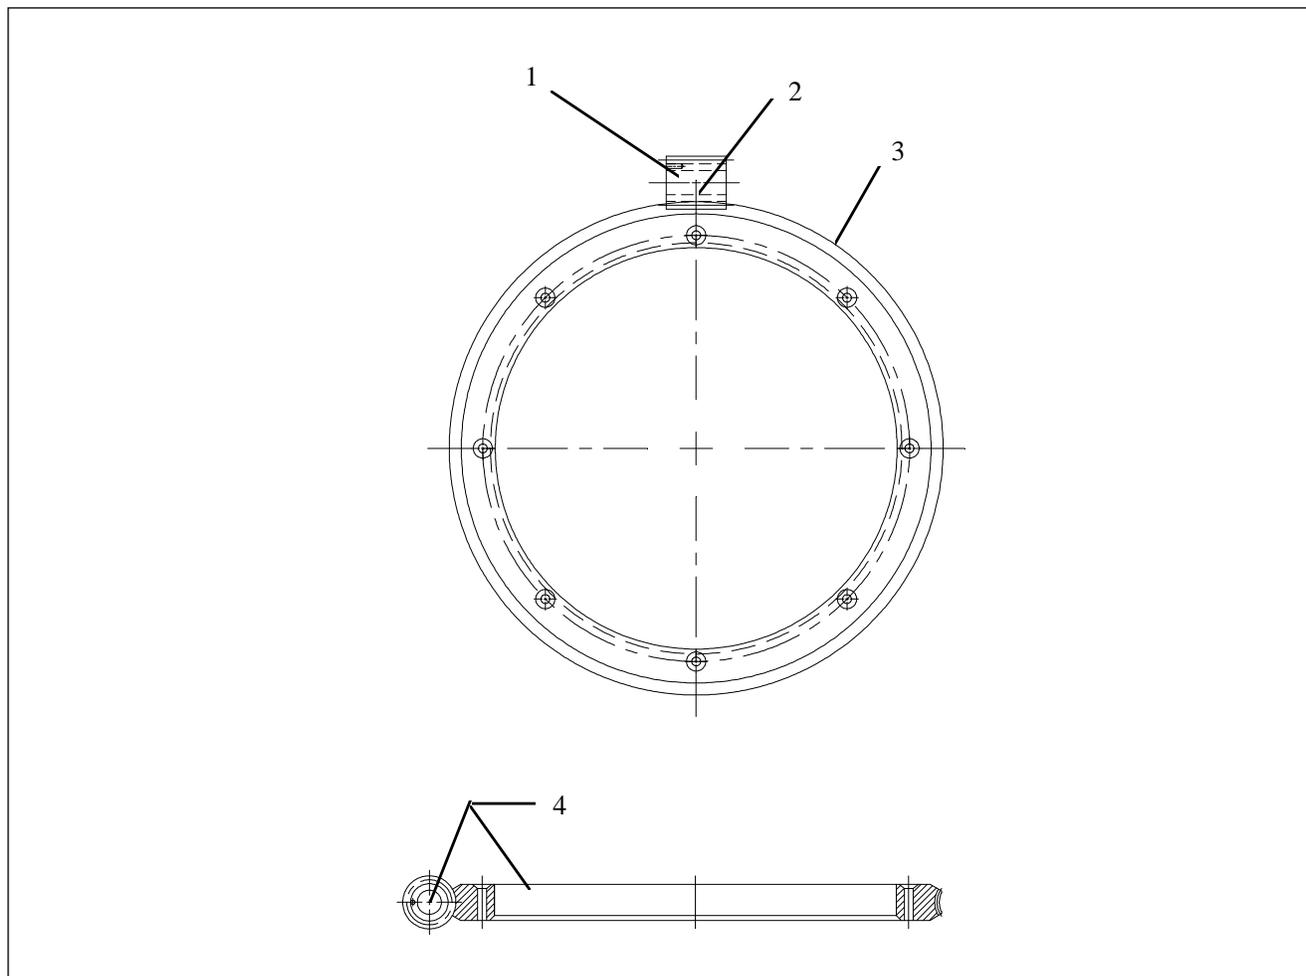

Figure 8. Worm Alignment
11. See Figure 8. Begin the initial worm (1) and worm gear (3) alignment by first moving the motor so that the worm begins meshing with the worm gear teeth. Center the worm vertically (4) with the worm gear.